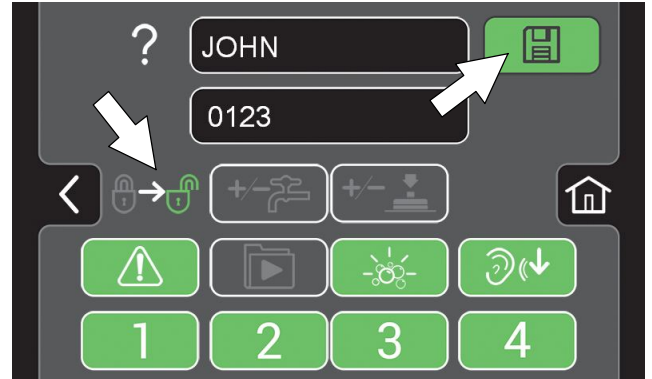

FIG. 182
6. Select the controls the new user should only have access to use (Figure 182). Green represents unlocked controls and gray represents locked controls. Press the flashing save button to save new profile.